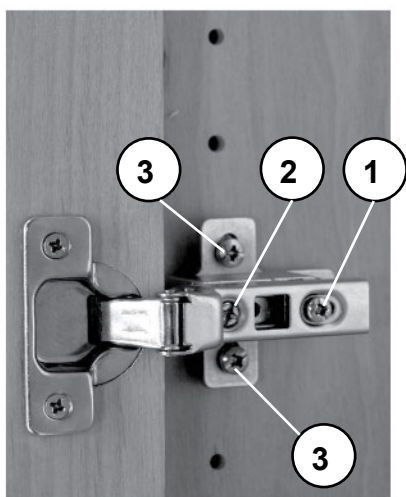

Fig. 4
4. The door may need to be adjusted so that all the spaces between the doors and unit sides are equal. To make those adjustments, follow the instructions in Figure 4.